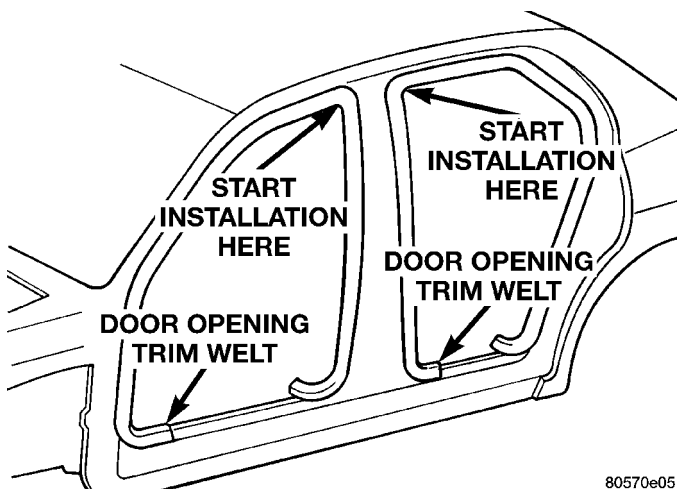

Fig. 55 Door Opening Trim Welt
- (1) Open door to gain access to trim welt.
- (2) Remove door sill trim panel.
- (3) Pull trim welt from door opening flange (Fig. 55).